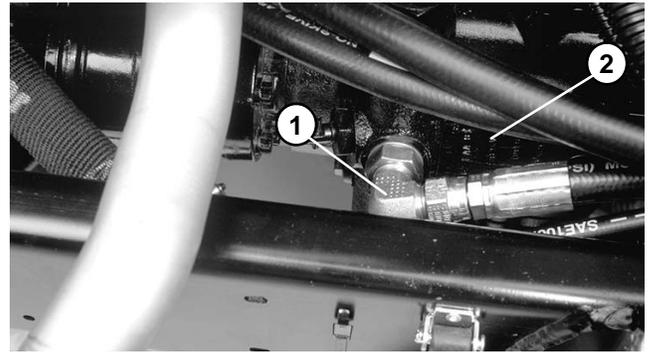

Figure 24
4. Disconnect hose to the rear hydraulic fitting on the piston pump coming from the hydraulic manifold port (CHG) (Fig. 24).